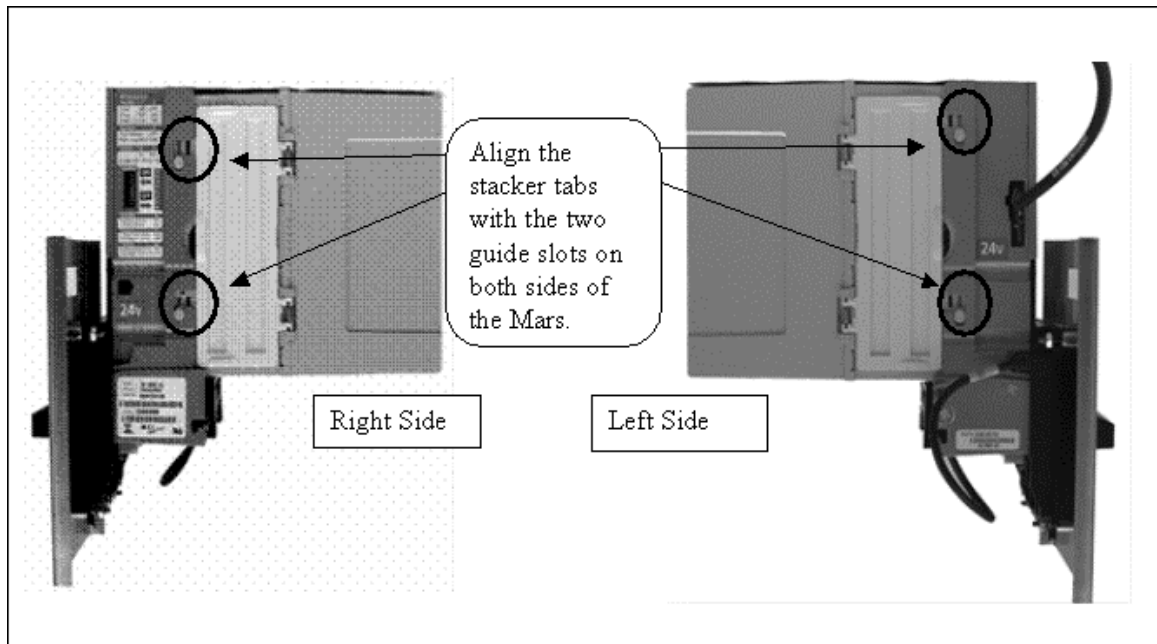

Figure 17. Mars Bill Stacker Replacement
4. Slide the stacker tabs into the guide slots, and then down until it is fully seated, as shown in Figure 17.